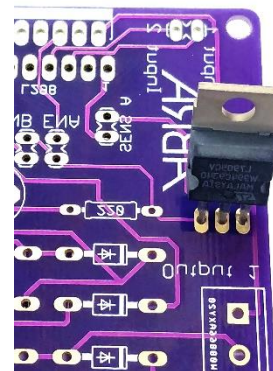

Figure S4
6. Insert the 7805T as indicated on the board *(See figure S4)*